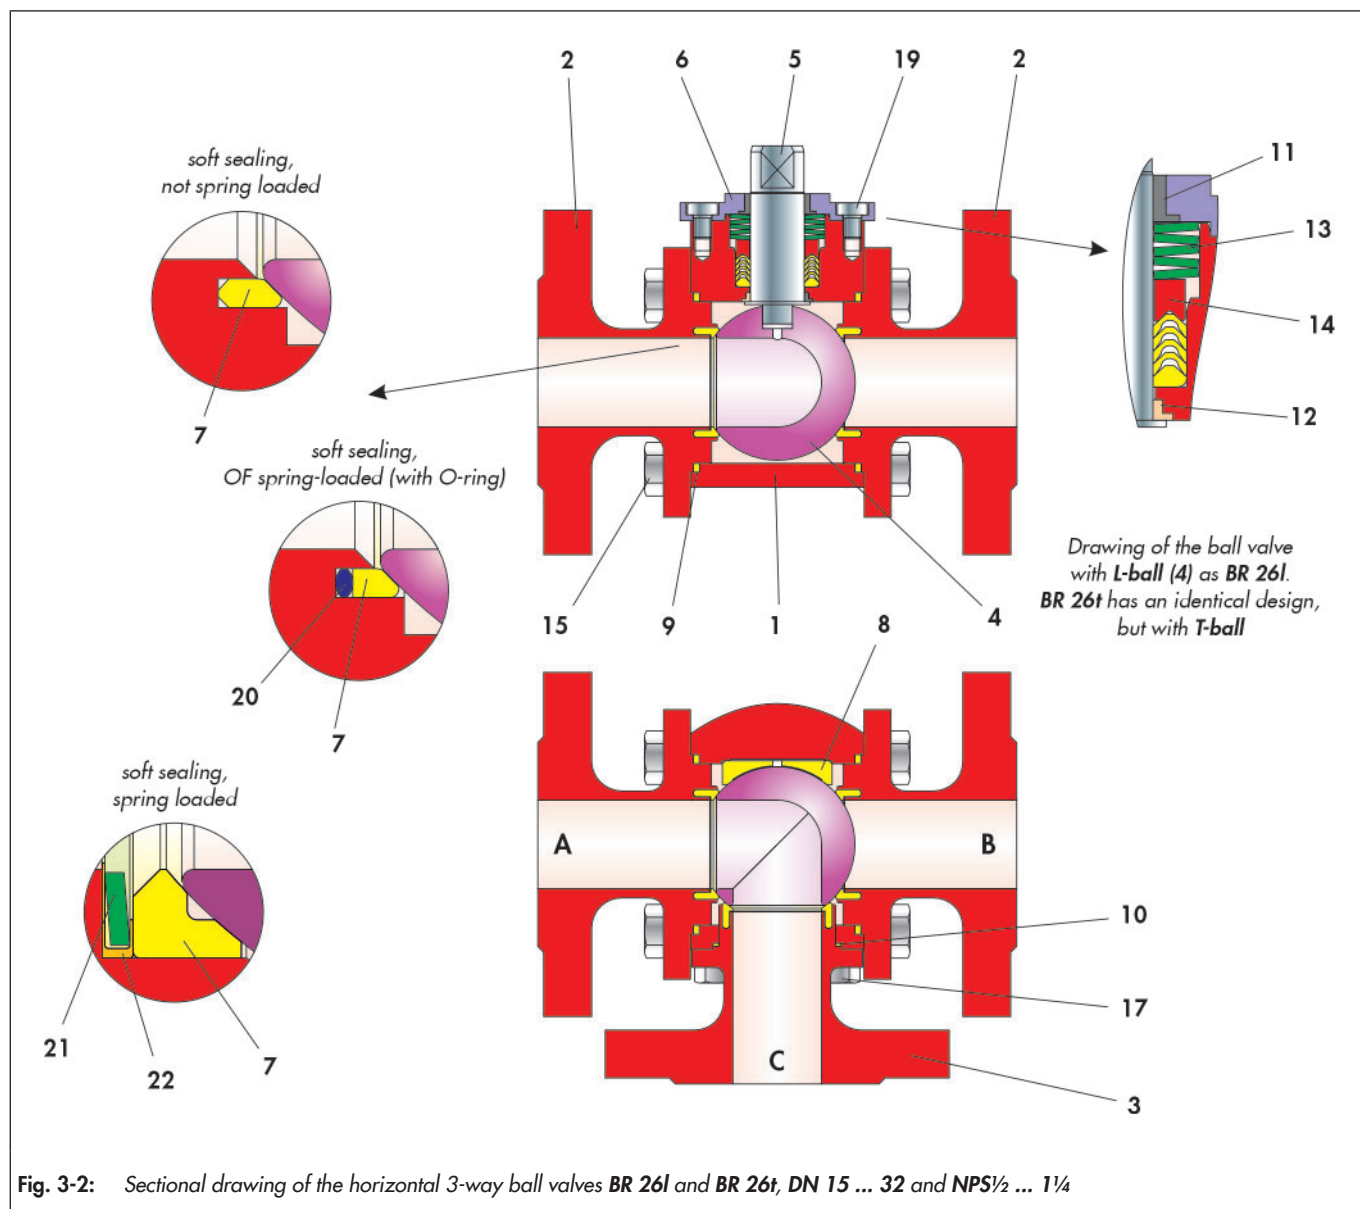

Fig. 3-2: Sectional drawing of the horizontal 3-way ball valves BR 26l and BR 26t, DN 15 ... 32 and NPS½ ... 1¼
– Depending on the version, stud bolts (15) with nuts (16) or screws (15) can be used.
- ⇒ Press the bearing bush (12) at the appropriate location into the main body (1).
- ⇒ Push the control shaft (5) through the mounted bearing bush (12) into the main body. Make sure the control shaft can be moved.
- ⇒ Slightly rotate the V-ring packing (14) so it can be pushed over the mounted control shaft (5) more easily and insert it at the appropriate packing location into the main body (1). For the arrangement of the V-rings, see Fig. 3-2
- ⇒ Place the disc springs (13) onto the packing. For the arrangement of the disc springs, see Fig. 3-2.
- ⇒ Press the bearing bush (11) into the packing box flange (6).
- ⇒ Place the packing box flange (6) over the control shaft (5) on to the main body (1).
- ⇒ Lightly grease the screws (19).
- ⇒ Adjust the stuffing box flange with the screws (19).